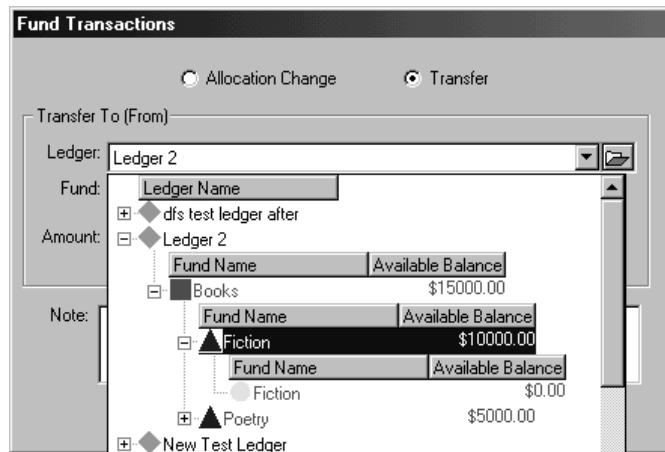

Figure 5-31. Ledger/Fund hierarchy displayed in the Ledger field
- If you want to select a fund from a ledger/fund hierarchy rather than typing the fund code into the **Fund** field, click the **folder** button beside the **Ledger** field. This displays a hierarchy of available ledgers and funds (see Figure 5-31). To aid you in selecting an appropriate fund, each fund's available balance displays within the hierarchy.